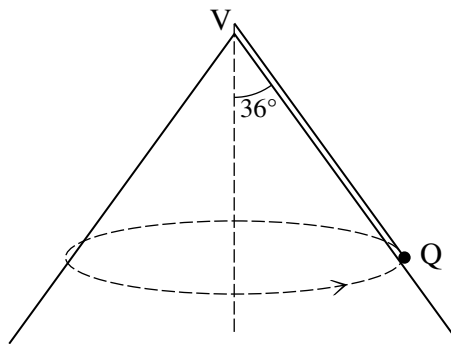

Fig. 2
- (A) the radial and tangential components of the acceleration of P, [5]
- (B) the tension in the string. [3]
- (b) A solid cone is fixed with its axis of symmetry vertical and its vertex V uppermost. The semi-vertical angle of the cone is 36° , and its surface is smooth. A particle Q of mass 0.2 kg is connected to V by a light inextensible string, and Q moves in a horizontal circle at constant speed, in contact with the surface of the cone, as shown in Fig. 2.